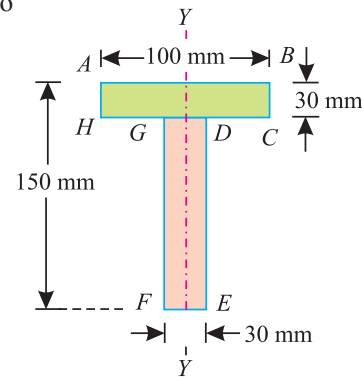

Fig. 6.10.
**Solution.** As the section is symmetrical about  $Y-Y$  axis, bisecting the web, therefore its centre of gravity will lie on this axis. Split up the section into two rectangles  $ABCH$  and  $DEFG$  as shown in Fig 6.10.